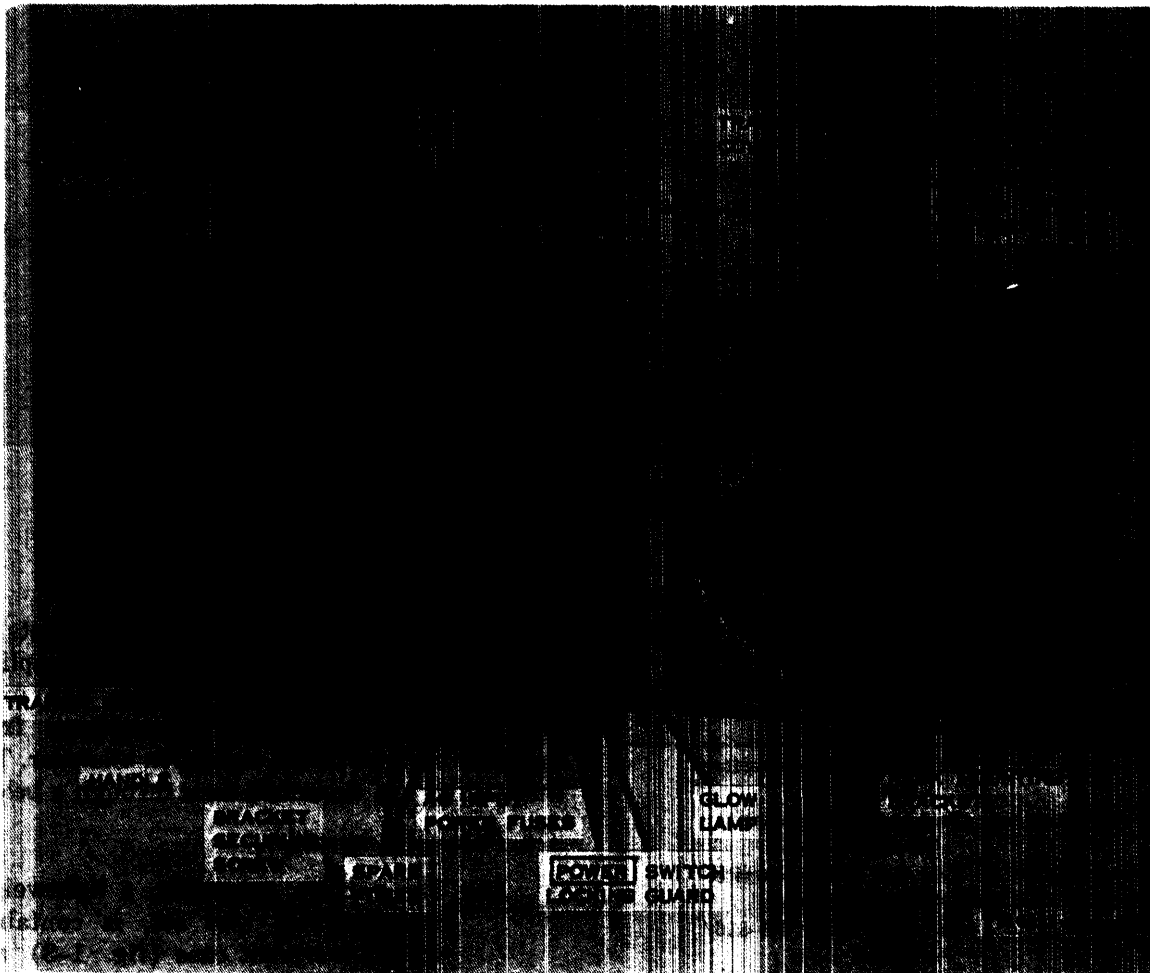

Figure 1-3. Test Set, Teletypewriter TS-799/UGM-1 in transit case.
- (1) The pattern generator, a lightweight transistorized test set, is contained within a transit case (fig. 1-3) and secured to the case at its front panel by four bracket-securing screws.
- (2) Pattern generator circuitry is contained within two sideplates, a front panel, and a top and bottom cover. All operating controls are mounted on the front panel (fig. 1-3) together with the alternating current (ac) input power fuses and two spare fuses. Internally, the unit is divided
a. The transit case for the pattern generator and for the distortion analyzer (fig. 1-3 and 1-7), is a wraparound-type structure containing a carrying handle (not shown) at the rear. Inside the case, on the bottom, a guide rail guides two receptacles on the rear of the unit (fig. 1-4 and 1-8) into two locating pins on the rear panel of the case. These locating pins stabilize the unit and minimize shock and vibration during transit. At the front of the transit case (figs. 1-3 and 1-7), two hinged retainer brackets are screw-fastened to the top and bottom of the unit. The transit-case cover is attached to the transit case by four latches, one on each side. The power cable for the unit and the rack-mounting bracket for securing the unit to a relay rack are stored inside the transit-case cover in retaining brackets.
(1) Unsnap the four snap latches (one at each side), and remove the transit cover (figs. 1-3 and 1-7).
(2) Unscrew the four outer screws on the transit-case hinged retainer brackets.
(3) Pull back the retainer brackets; grasp the unit by its front handles, and pull the unit
*Note.* The pattern generator and distortion analyzer require eight 10-32 panhead screws for securing the equipment to the rack. Standard rackmount frames contain tapered holes which accept the 10-32 flathead screws that bond the rack-mount adapters (figs. 1-3 and 1-7) (with units attached) to the standard rack enclosure. The left-side panel of the pattern generator and the right-side of the distortion analyzer must be bound together with four 10-32 flathead screws, four No. 10 lockwashers, and four No. 10-32 hexagonal nuts.
(c) Remove the power cable and rack-mounting bracket from both transit-case covers (figs. 1-3 and 1-7).
(d) Connect the pattern generator mounting bracket to the two bracket-securing mounting holes (fig. 1-3) on the right side of the unit with 10-32 panhead screws.
(j) Place (and tighten) the pattern generator POWER switch locking guard (fig. 1-3) to the position that specifies the input voltage to which the power cable will be connected.
**Caution:** Make certain that the power cable is never connected to 230 volts ac with the POWER switch locking guard permitting the POWER toggle switch to be set to the 115-volt position. When this condition occurs, one of the ac input power fuses (fig. 1-3) will blow.